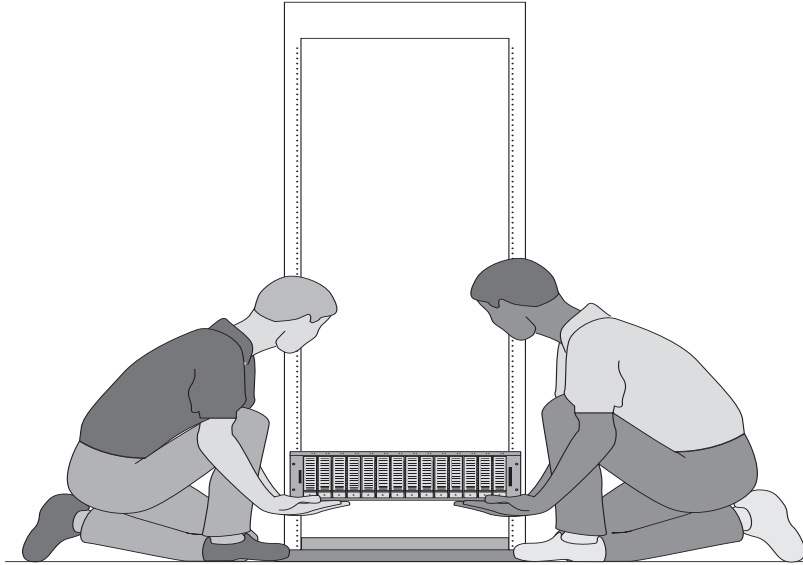

FIGURE C-4 Removing the End Caps on the Tray
1. **Unsnap and remove the left and right end caps on the tray to permit access to the screw mounting holes** (FIGURE C-4).